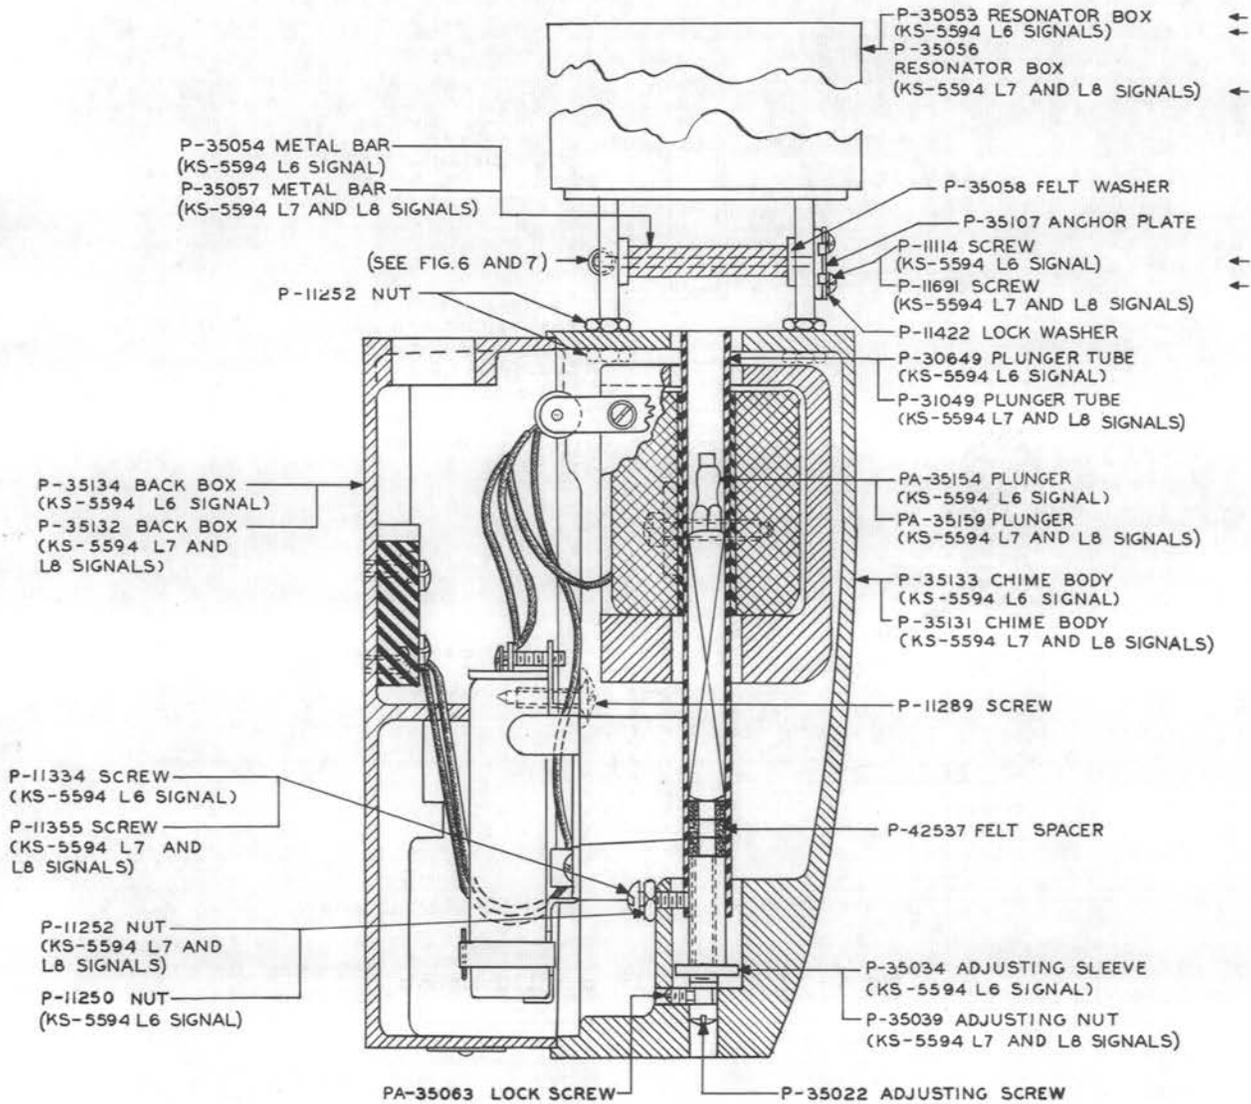

Fig. 5 - KS-5594, L6, L7, and L8 Signals
**Signals With Internal Tone Control — KS-5594, L6, L7, and L8 Signals (Fig. 5)**